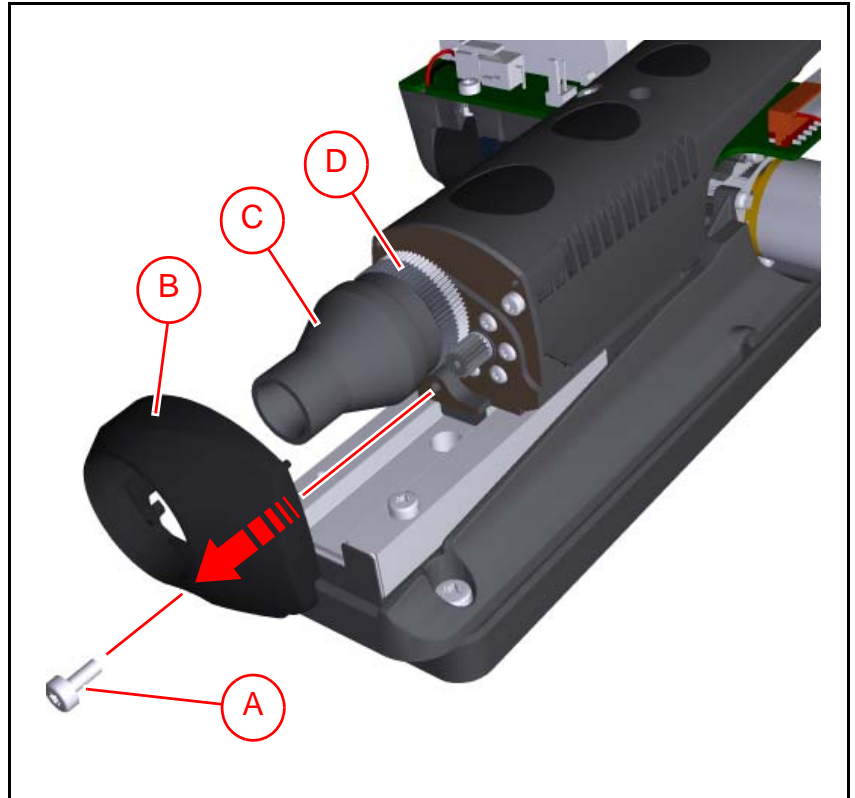

Figure 16-38. Midas gear stage.
8. To gain access to the gear stage, use a torx key to remove the screw ('A' in Figure 16-38) and the black plastic cover ('B').
Do not remove the tool holder ('C' in Figure 16-38).
9. Use a lint-free cloth to wipe off old grease and dirt from the gear stage ('D' in Figure 16-38) and apply a new thin layer of OKS 270 grease.